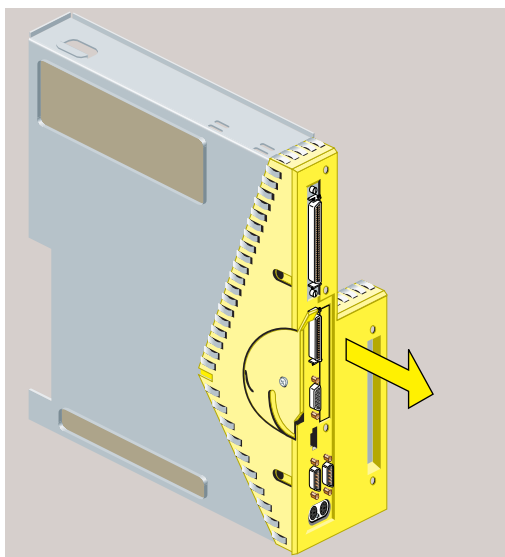

Figure 5-10 Removing the Face Plate From the System Module
3. Lift the face plate away from the module (Figure 5-10).